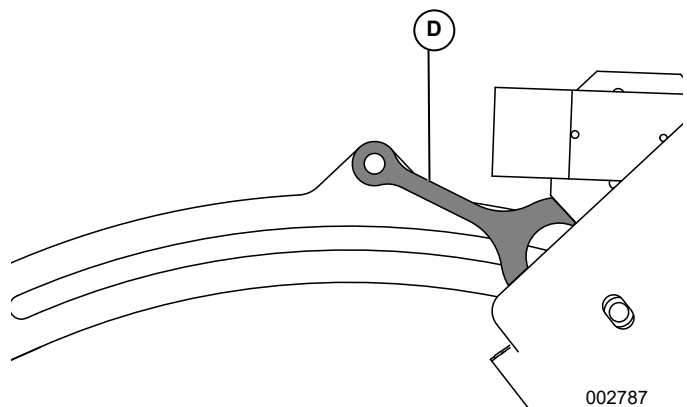

Figure 2-12. Safety Link
6. See Figure 2-12. Verify red safety link is engaged and undamaged.